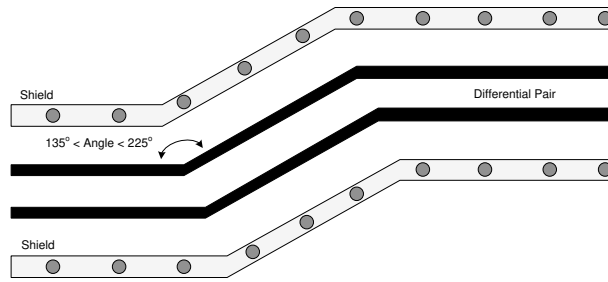

Figure 10-14. USB Routing Example
- Ensure that the bend angles associated with the differential signal pair are between 135° and 225°. (See Figure 10-14).